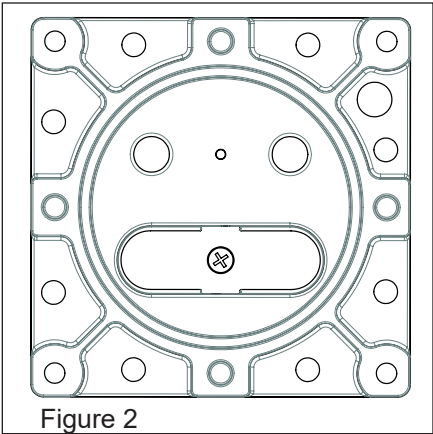

Figure 2
STEP 6. Install the new O-ring, seating it firmly into the groove with your finger or blunt object. See figure 2.